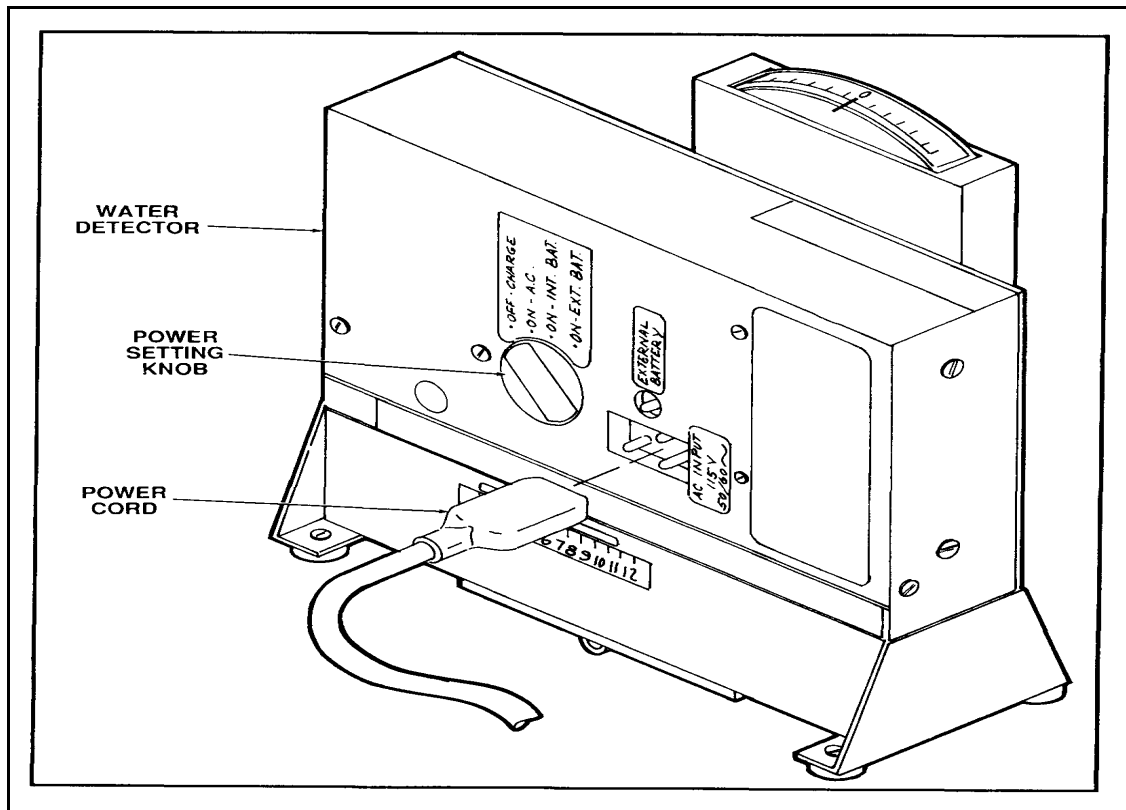

Figure E-2. AC/internal/external power settings
- Turn on the water detector, setting the indicator switch to the appropriate power source: set to AC (50 or 60 Hz, 110-120v, using power cord), internal battery, or external battery (using external battery cord). See Figure E-2, page E-3. When using the internal battery, ensure the battery is charged if the battery is in a low or no battery power condition. A low battery condition can be identified by sluggish response of the meter or failure of the detector to stay calibrated during two successive tests. Use of the detector in a low or no battery condition will provide inaccurate test results.